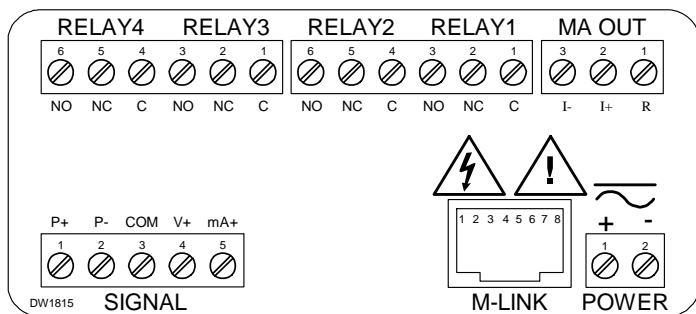

Figure 5. Connector Labeling for Fully Loaded PD6000
Power connections are made to a two-terminal connector labeled POWER on Figure 5. The meter will operate regardless of DC polarity connection. The + and - symbols are only a suggested wiring convention.
Signal connections are made to a five-terminal connector labeled SIGNAL on Figure 5. The COM (common) terminal is the return for the 4-20 mA and the ± 10 V input signals.
Serial communications connection is made to an RJ45 connector labeled M-LINK on Figure 5. Use PDA1232 for RS-232 interfacing or the PDA1485 for RS-422/485 interfacing. The same port is used for interfacing with all expansion modules (e.g. external relays, digital I/O).
Relay connections are made to two six-terminal connectors labeled RELAY1 – RELAY4 on Figure 5. Each relay's C terminal is common only to the normally open (NO) and normally closed (NC) contacts of the corresponding relay. The relays' C terminals should not be confused with the COM (common) terminal of the INPUT SIGNAL connector.